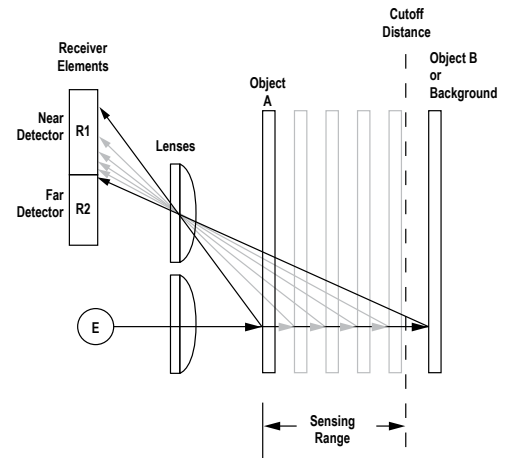

Figure 2. Adjustable field sensing concept
The sensor compares the reflections of its emitted light beam (E) from an object back to the sensor’s two differently-aimed detectors R1 and R2 (see Figure 2. Adjustable field sensing concept on page 2). If the near detector (R1) light signal is stronger than the far detector (R2) light signal (see object A, closer than the cutoff distance), the sensor responds to the object. If the far detector (R2) light signal is stronger than the near detector (R1) light signal (see object B, object beyond the cutoff distance), the sensor ignores the object.